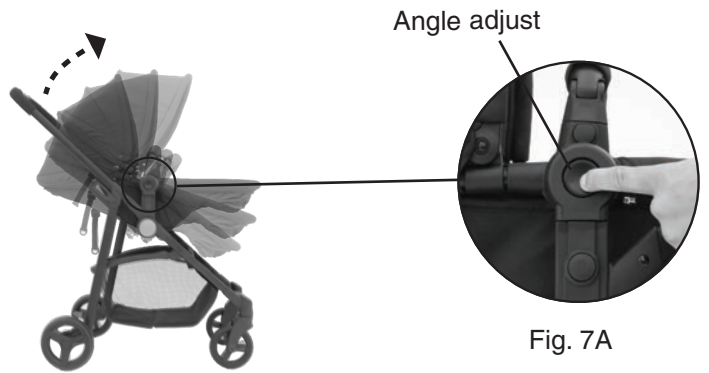

Fig. 7A
- If in **carriage mode** make sure to set to full incline before continuing (Fig. 7A).